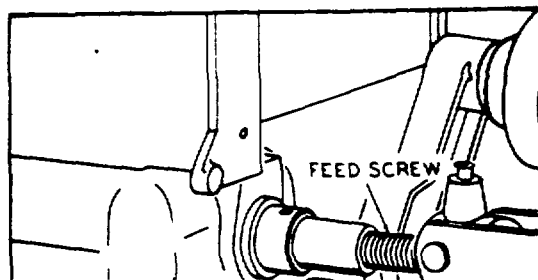

FIGURE 95
- (b) Make sure that Feed Screw (Figure 95) moves freely in bushings and collar. Apply penetrating oil at front and back of housing and work it in and out a few times to clean out gum or dirt.